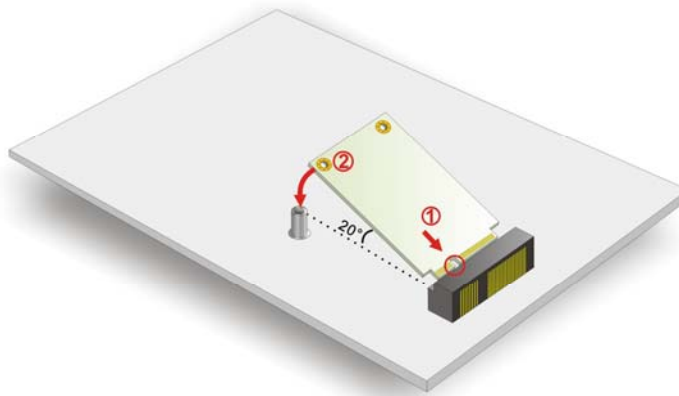

Figure 3-4: Inserting the PCIe Mini Card into the Socket
Step 3: Insert into the socket at an angle. Line up the notch on the card with the notch on the connector. Slide the PCIe Mini card into the socket at an angle of about 20° (**Figure 3-4**).